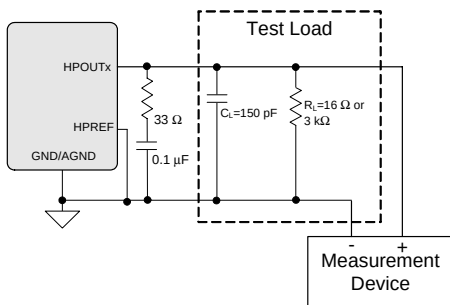
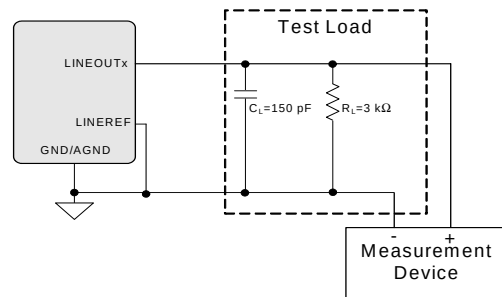

Figure 3. HP Output Test Configuration
Figure 4. Line Output Test Configuration
Test conditions (unless otherwise specified): Connections to the CS42L55 are shown in the "Typical Connection Diagram" on page 10; Input test signal is a full-scale 997 Hz sine wave; All Supplies = V_A , VCP Mode; GND = AGND = 0 V; $T_A = +25^\circ\text{C}$; Measurement bandwidth is 20 Hz to 20 kHz; Sample Frequency = 48 kHz; Test load $R_L = 3\text{ k}\Omega$, $C_L = 150\text{ pF}$ for a Line Load, and test load $R_L = 16\text{ }\Omega$, $C_L = 150\text{ pF}$ for a headphone load. (See Figure 3 on page 15).
Test conditions (unless otherwise specified): Connections to the CS42L55 are shown in the “Typical Connection Diagram” on page 10; Input test signal is a full-scale 997 Hz sine wave; All Supplies = V_A , VCP Mode; GND = AGND = 0 V; $T_A = +25^\circ\text{C}$; Measurement bandwidth is 20 Hz to 20 kHz; Sample Frequency = 48 kHz; Test load $R_L = 3\text{ k}\Omega$, $C_L = 150\text{ pF}$ (see Figure 3 on page 15).
- See Figure 3 and Figure 4 on page 15. Refer to “Parameter Definitions” on page 71.